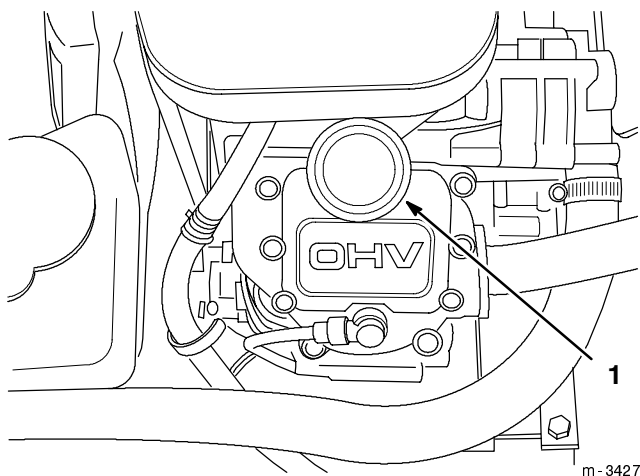

Figure 28
6. Remove the oil filler cap (Fig. 28) and refill the engine with a high-quality, API Service SG or SH engine oil (see viscosity chart).
7. Slowly pour approximately 80% of the specified amount of oil into the filler tube (Fig. 28). Now check the oil level; refer to Checking the Engine Oil Level, page 11. Slowly add additional oil to bring the oil level to the FULL mark on the dipstick.